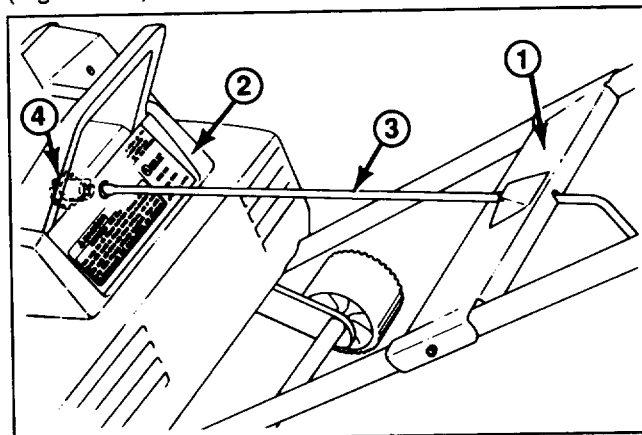

Figure 2
5. Place the mounting plate over the tubes (Fig. 2). Align mounting plate holes with upper and lower tubing holes.
6. Insert end of chute crank through hole in shroud. Turn chute crank rod lightly until flattened end drops into slot in gear. Firmly push chute crank into gear until it snaps into place (Fig. 2 & 3).